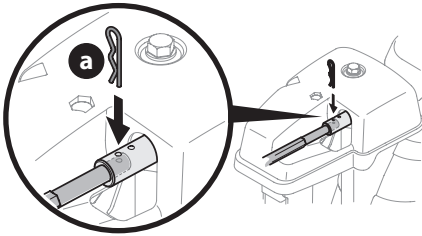

Figure 25
7. Push chute control rod toward control panel until hole in rod lines up with hole in chute control input collar closest to chute control head and insert hairpin clip (a) removed in Step 1 (Figure 25).